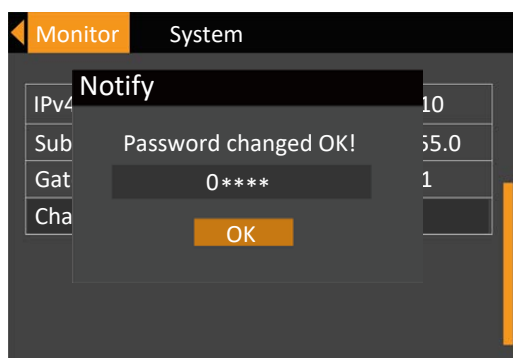

Figure 5-25 Password changed OK
6. After the confirmation, press the  key and the system prompts that the password changing is successful, see Figure 5-25.